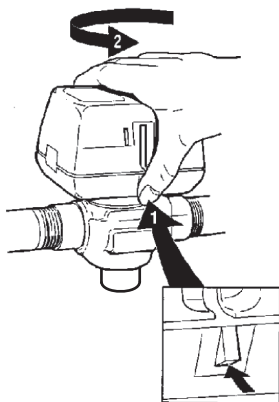

Fig. 1.
4. Remove valve actuator by pressing up on the latch mechanism located directly below the red manual open lever with thumb (See Fig. 1). Simultaneously press the actuator down towards the valve body with